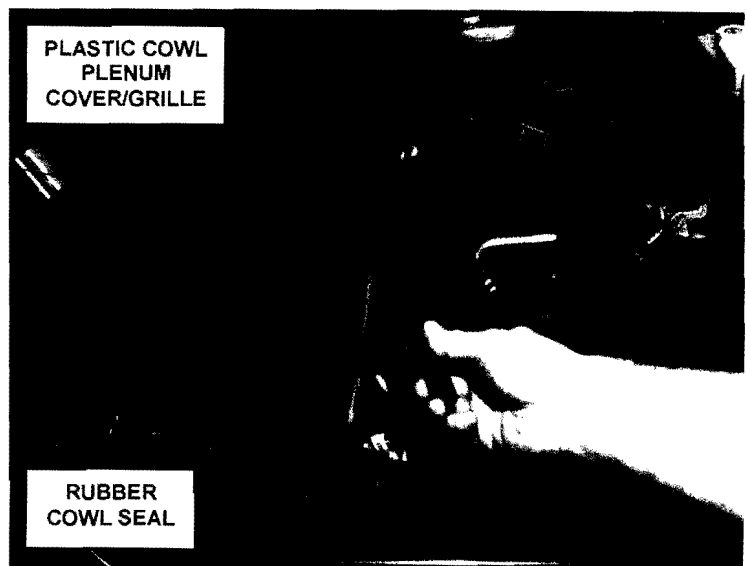

**Figure 1 – Pivot Cover and Nut**
3. Remove the both front wiper arm retaining nut plastic covers (Figure 1).
4. Remove and save both front wiper arm-to-pivot retaining nuts (Figure 1).
25. Install wiper arm-to-pivot retaining nut plastic covers (Figure 1).